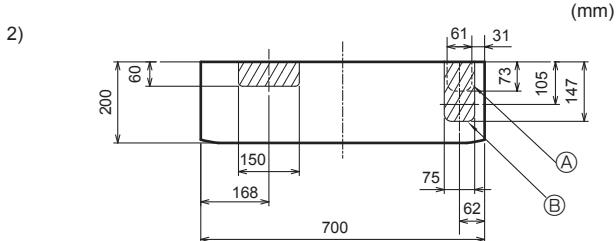

Fig. 3-8
- 2) For right downward or left downward piping (Fig. 3-8)**